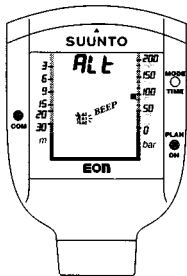

Fig. 4.12 ALTITUDE/PERSONAL ADJUSTMENT SETTING, step 2
2. Connect the ON/PLAN and COM contacts until a beep is heard and all three altitude/personal adjustment modes appear. Release your fingers immediately at this point. The current mode is now blinking (Fig. 4.12). Wait at least two seconds but not more than four seconds before the next step.